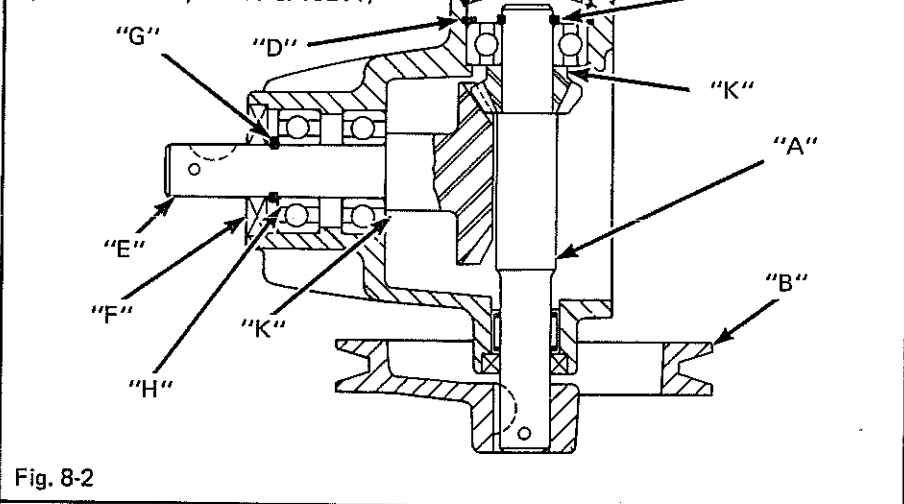

Fig. 8-2
5. Remove output shaft (A), Figure 8-2, as follows:
- a. Remove drive sheave (B) and wood-ruff key. Remove any burrs on end of shaft.